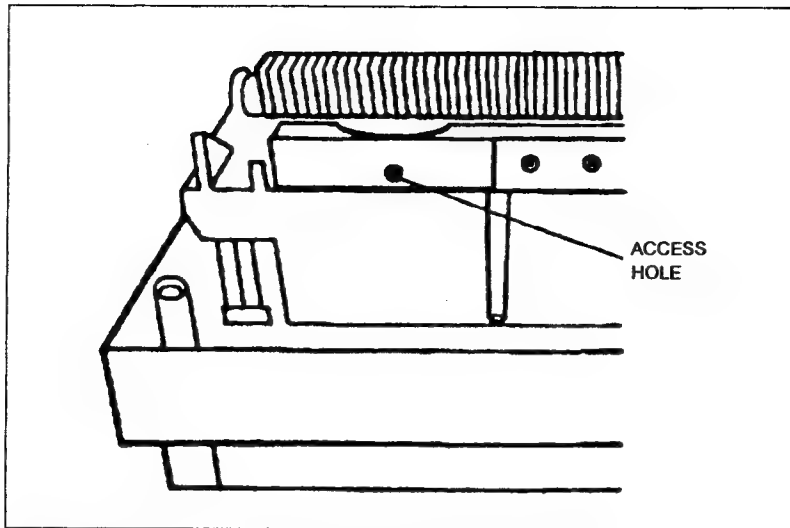

Figure 6-13. Accessing Crank Assembly Set Screw
- d. Rotate the crank assembly until the set screw securing the crank assembly to the drive motor is accessible from the access hole in the print mechanism (see Figure 6-13). Using a 2.5 mm allen wrench, loosen the set screw.